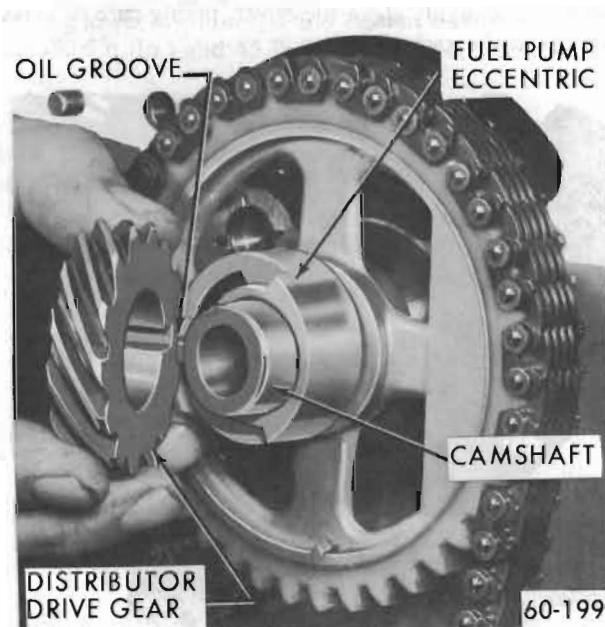

Figure 60-112 - Fuel Pump and Distributor Drive Gear Installation - 350 Cu. In.
3. Remove bolt and special washer retaining camshaft distributor drive gear and fuel pump eccentric to camshaft forward end. Slide gear and eccentric off camshaft. See Figure 60-112.
6. Install distributor drive gear. See Figure 60-112.